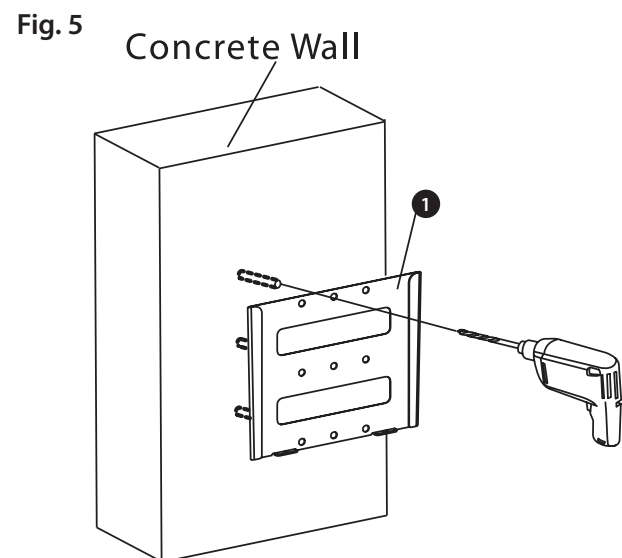

Fig. 5
the bracket securely in position), see Fig. 5. When fixing to walls screws/bolts should be fixed into bricks/stone **not** into mortar courses. Use the Wall Plate ① as a template to mark screw/bolt positions and make sure all screws/bolts are properly tightened.